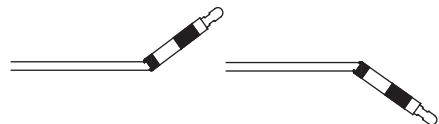

Figure 6
2. Next straighten the pusher back, continue bending and straightening until the pusher tubing opens exposing the release element (Figure 6).